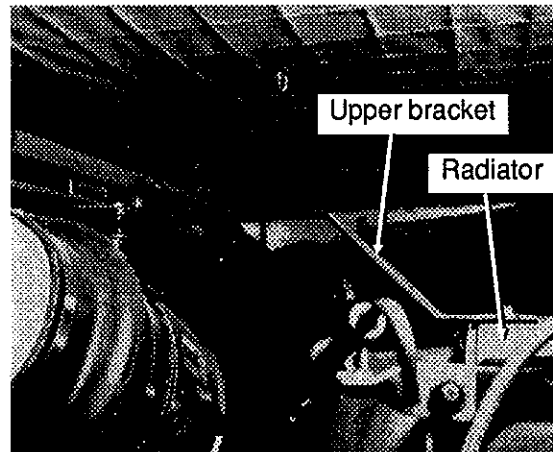

FIG. 4
14. Remove the fasteners securing the radiator upper bracket to the structural member (fig. 4).